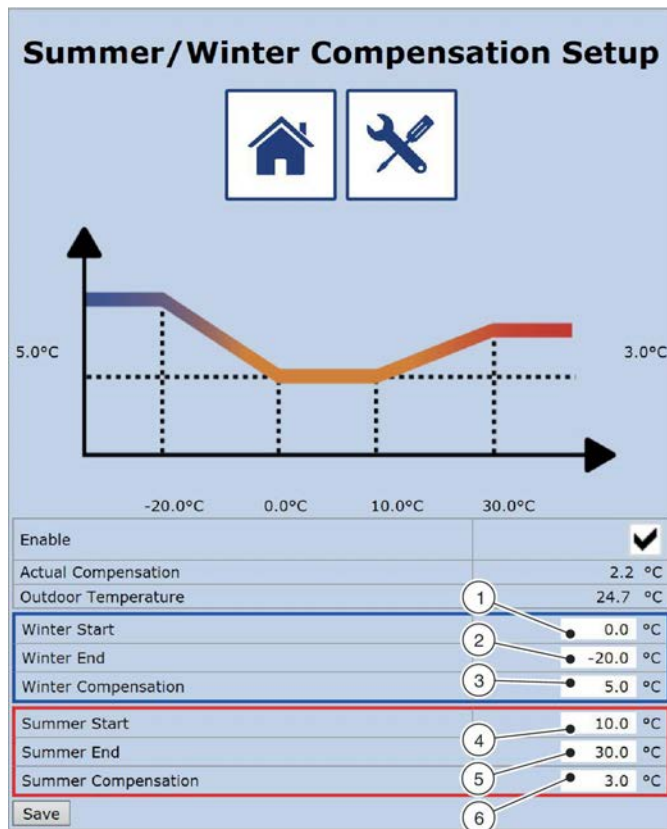

Fig. 68: Summer and winter compensation
⇒ The 'Summer/Winter Compensation Setup' screen (Fig. 68) displays.
- ▶ Enter the outdoor air temperature at which winter compensation shall start (Fig. 68 /1).
- ▶ Enter the outdoor air temperature at which winter compensation shall end (Fig. 68 /2).
- ▶ Enter the maximum winter compensation value for the setpoint (Fig. 68 /3).
- ▶ Enter the outdoor air temperature at which summer compensation shall start (Fig. 68 /4).
- ▶ Enter the outdoor air temperature at which summer compensation shall end (Fig. 68 /5).
- ▶ Enter the maximum summer compensation value for the setpoint (Fig. 68 /6).